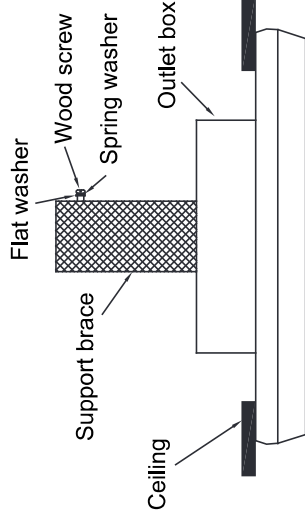

Fig. 7
Step 1. Drive a wood screw and washers into the side of the brace that holds the outlet box. Leave 3mm (1/8") of space between the support brace and the washer (**Fig. 7**).